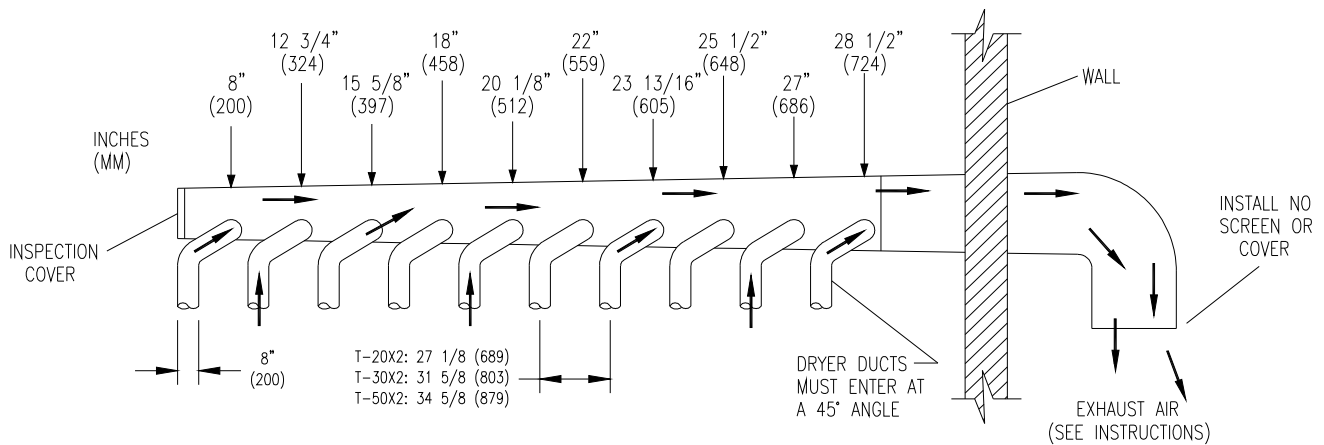

FIGURE 3- Dryer Exhausting Using A Main Discharge Duct
6. **EXHAUST INSTALLATION.** (Refer to Figure 3) Exhausting of the dryer(s) should be planned and constructed so that no air restrictions occur. Any restriction due to pipe size or type of installation can cause slow drying time, excessive heat, and lint in the room.
Installation of several dryers, where a main discharge duct is necessary, will need the following considerations for installation (see Figure 3). Individual 8" (200 mm) exhaust ducts from each dryer should enter main discharge duct at a 45-degree angle in the direction of discharge airflow.
NOTE: Never install the individual ducts at a right angle into the main discharge duct. The individual ducts from the dryers can enter at the sides or bottom of the main discharge duct. Figure 3 indicates the various round main duct diameters to use with the individual dryer ducts. The main duct can be rectangular or round, provided adequate airflow is maintained. The total exhausting (main discharge duct plus duct outlet from the dryer) should not exceed the equivalent of 14 ft. (4.25 m) and two elbows. The diameter of the main discharge duct at the last dryer must be maintained to exhaust end.